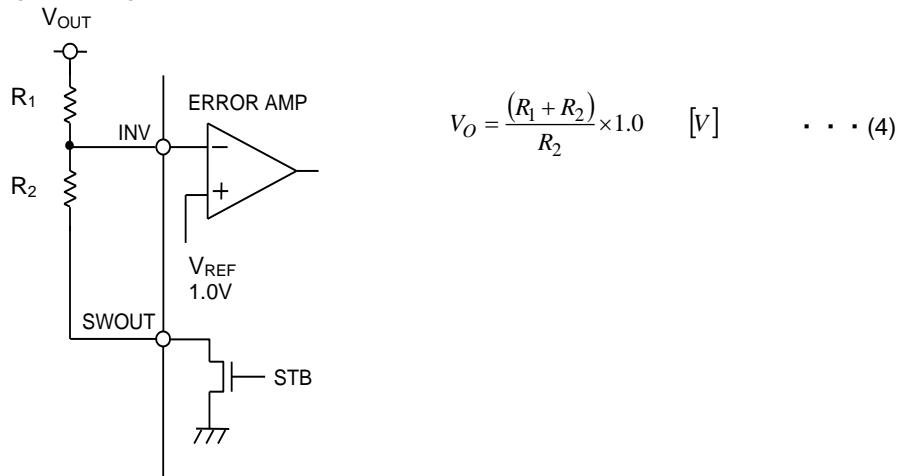

Figure 35. Setting of Voltage Feedback Resistance
The internal reference voltage of the ERROR AMP is 1.0 V. Output voltage is obtained by Equation (4) of Figure 35, but it should be designed taking into consideration the NMOS ON-Resistance of SWOUT (about  $50\ \Omega$ ).